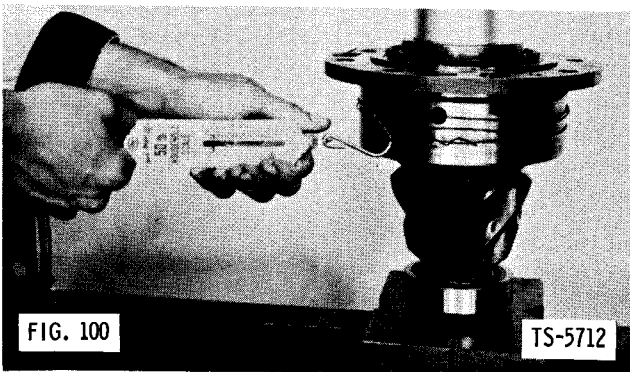

FIG. 100
- Keep pinion and cage assembly in press with approximately 500 pounds of press pressure exerted on driver. Wrap several turns of soft wire or cord around pinion cage and pull in horizontal line with spring scale. While pulling in straight line (90 degrees from centerline of shaft), read spring scale and measure rotating torque (Fig. 100). Multiply reading on spring scale by one-half diameter of bearing cage to obtain preload torque. Correct preload torque is 13 to 23 in.-lbs. If preload is not within these limits, remove shims to increase preload or add shims to decrease preload.